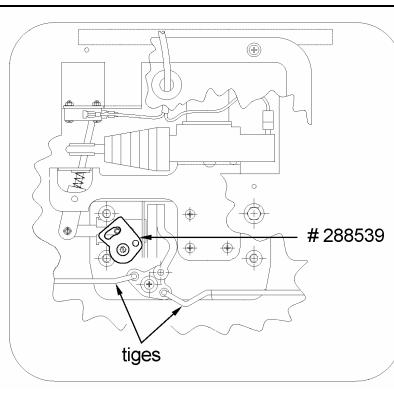

FIGURE 16
13. Place lever #288539 as shown on figure 16. Screw in place using the lock washer and the flat washer.
15. Attach the rods (figure 16).
3. Detach the rods (see figure 16) and finally, remove the handle.
7. Attach the rods to the mechanism (figure 16).